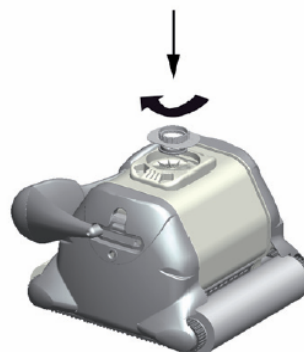

Figure 2
- Inspect the pump outlet to ensure that no debris or hair has clogged the impeller. The impeller can be cleaned by removing the impeller tube (page 9, #9) by twisting (rotating) it (page 6, Fig 2).